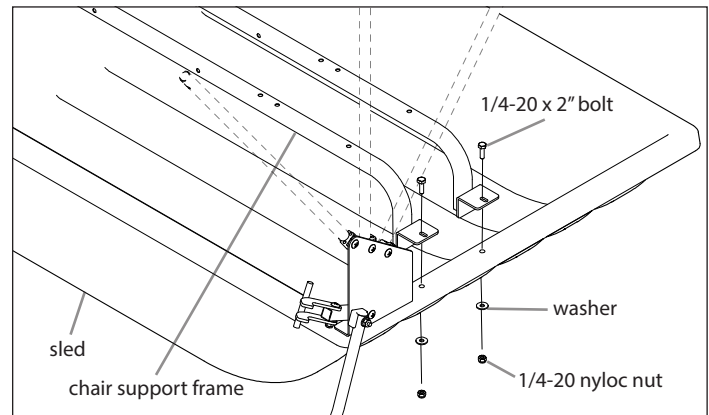

FIGURE 2: Right Side Shown
3. Attach the chair support frame (11300) to the sled using (2) 1/4-20 x 2" bolts, (2) 1/4-20 nyloc nuts and (4) 1/4" washers. Repeat this step and use of the hardware for the second chair support frame (11300). **SEE FIGURE 2**